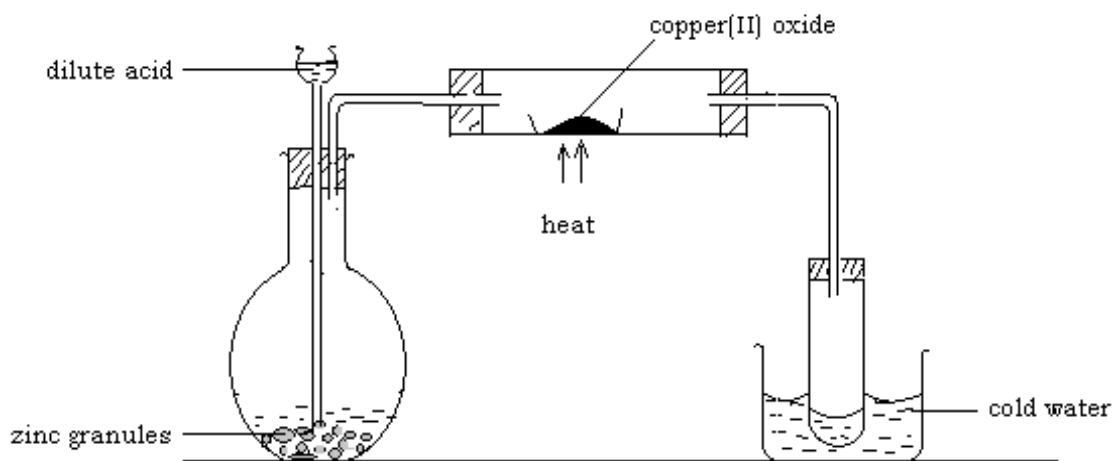

Figure 9.2: Showing reducing action of hydrogen
1. Place copper(II) oxide in a porcelain boat carefully.
2. Arrange the apparatus as in Figure 9.2.
3. Prepare hydrogen as in the previous experiment but this time instead of collecting the gas; pass it over the hot copper(II) oxide.
4. Heat the copper(II) oxide strongly. What change occurs when copper oxide is strongly heated in a stream of hydrogen? Write an equation for the reaction between hydrogen and copper oxide.
7. Test the liquid that has collected in the test tube in the beaker with anhydrous copper(II) sulphate. What can you observe?